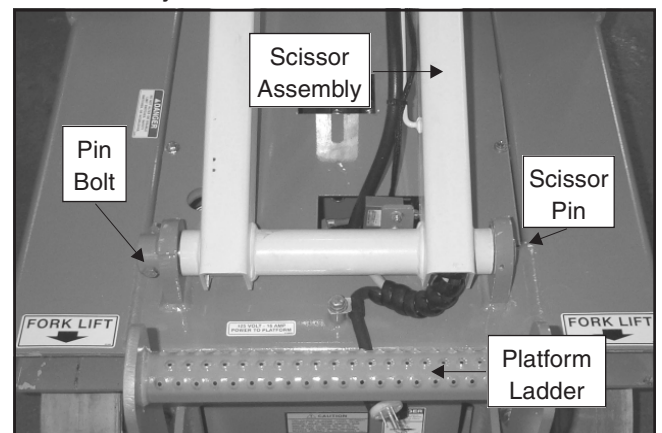

Figure 5.4—Scissors Removal
3. Remove platform ladder (figure 5.4).
4. Remove pin bolt (figure 5.4).
5. With a hammer and punch, remove the scissor pin (figure 5.4).